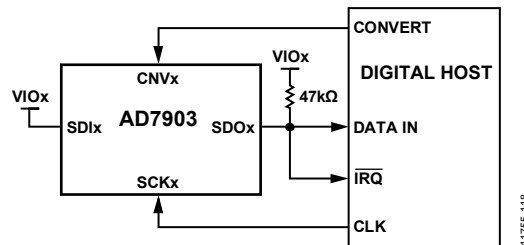
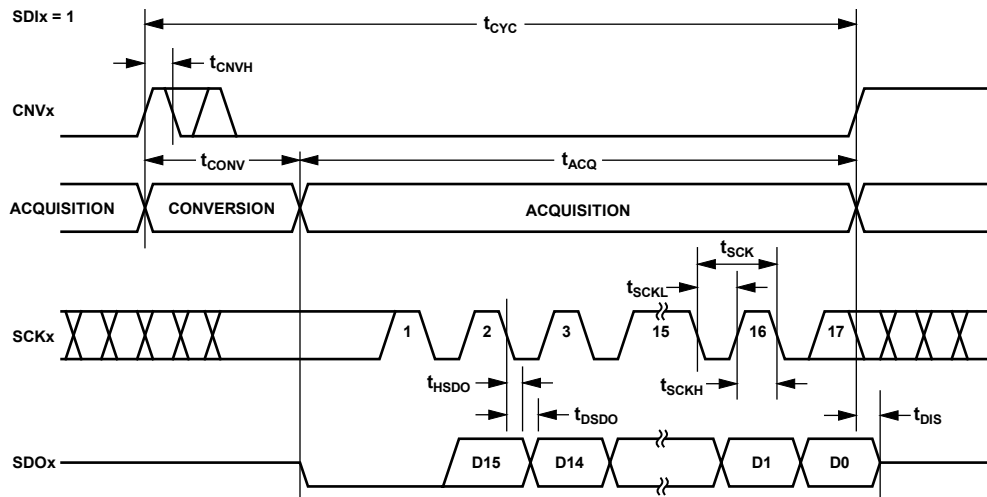
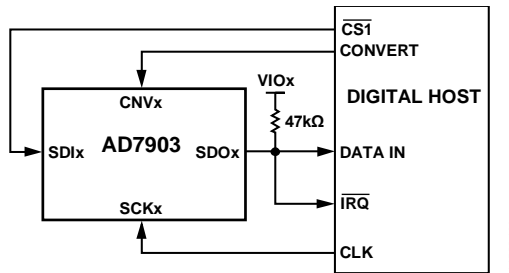
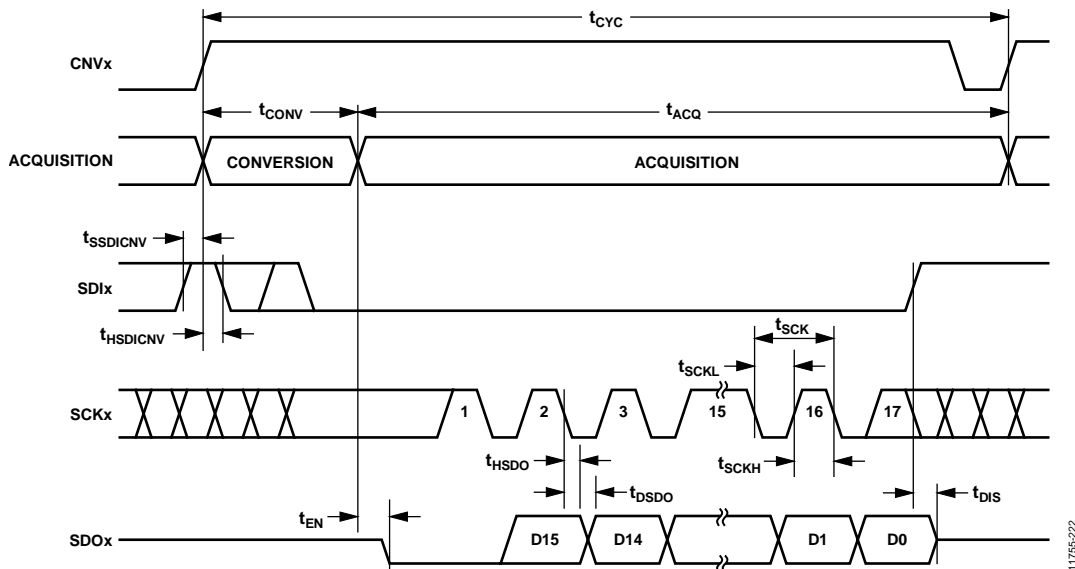

Figure 41.  $\overline{\text{CS}}$  Mode, 3-Wire Interface with Busy Indicator Connection Diagram ( $\text{SDIx}$  High)
Figure 42.  $\overline{\text{CS}}$  Mode, 3-Wire Interface with Busy Indicator Serial Interface Timing ( $\text{SDIx}$  High)
Figure 45.  $\overline{CS}$  Mode, 4-Wire Interface with Busy Indicator Connection Diagram
Figure 46.  $\overline{CS}$  Mode, 4-Wire Interface with Busy Indicator Serial Interface Timing
- In  $\overline{CS}$  mode if CNVx or SDIx is low when the ADC conversion ends (see Figure 42 and Figure 46).
The connection diagram is shown in Figure 41, and the corresponding timing is shown in Figure 42.
The connection diagram is shown in Figure 45, and the corresponding timing is given in Figure 46.